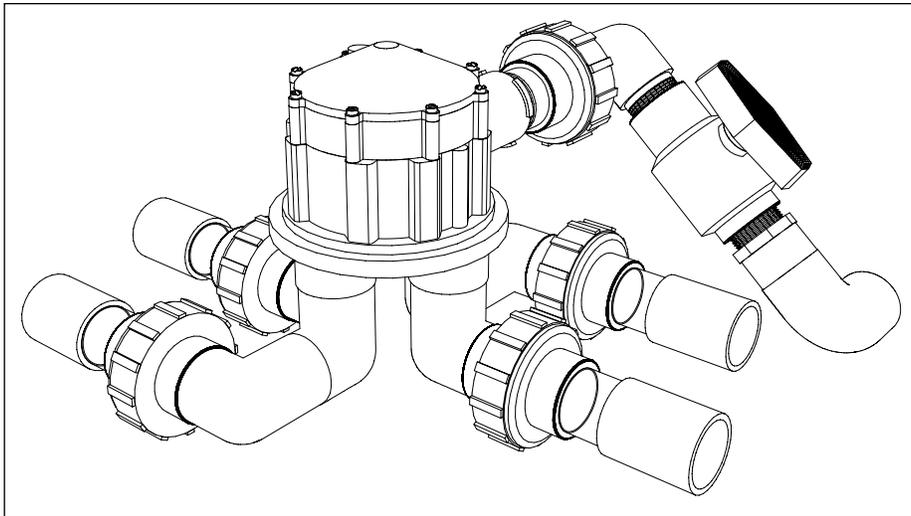

Figure 2:
The Orenco Automatic Distributing Valve Assembly combines the distributing valve itself and several other components to give a complete preassembled unit that is easy to install, monitor, and maintain. Figure 2 shows a complete assembly. Because distributing valves with several outlets can be difficult to line up and glue together in the field, the discharge lines in the assemblies are glued in place at Orenco. The unions (1) allow removal and maintenance of the valve. The clear PVC pipe sections (2) give a visual check of which discharge line is being pressurized. The inlet ball valve (3) allows a quick, simple method to test for proper valve cycling. The ball valve also stops the flow of effluent in case the pump is activated unexpectedly during maintenance or inspection. Check valves may be necessary on the discharge lines. Use of check valves is discussed in the valve positioning section.